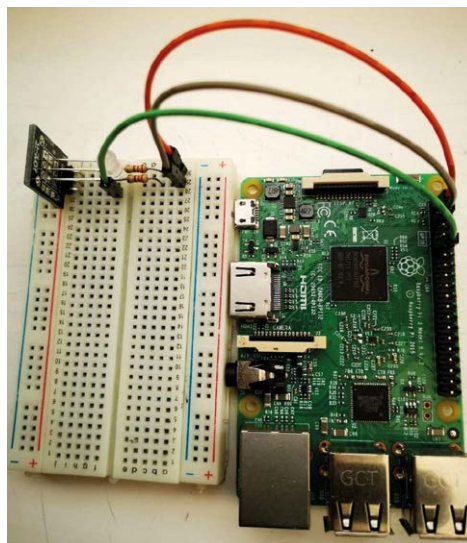

Figure 2.23 Project constructed on a breadboard
**Construction:** The project is constructed on a breadboard as shown in Figure 2.23. Jumper wires are used to connect the KY-011 to digital port pins 2 and 3 and GND of Raspberry Pi.